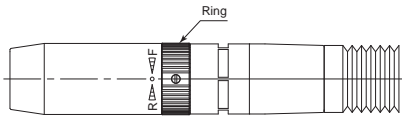

Fig. 5
- Motor will be rotated by turning the Ring Switch of Air Motor toward ( " F : FWD." or " R : REV." ) in Fig.5 and stepping on Foot Control.